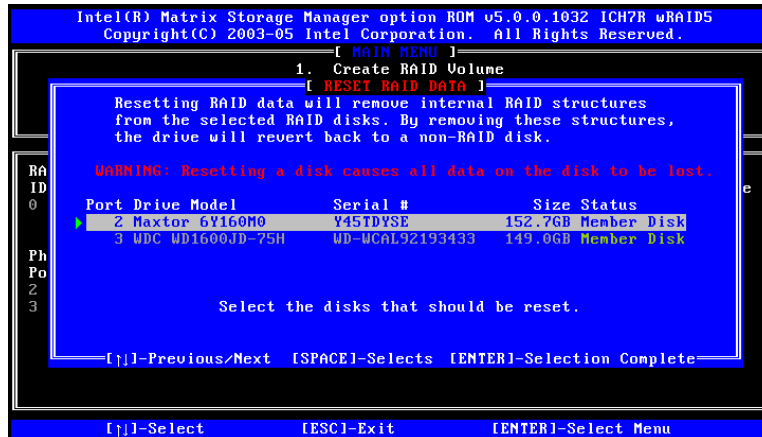

Figure A-2: Select Disk to Reset
Step 2: Select Disks to Reset. Use the arrow keys to scroll through the disk drives and press **SPACE** to select which drives are to be reset as non-RAID. After all the disks to be reset have been chosen, press **ENTER**. See **Figure A-2**.